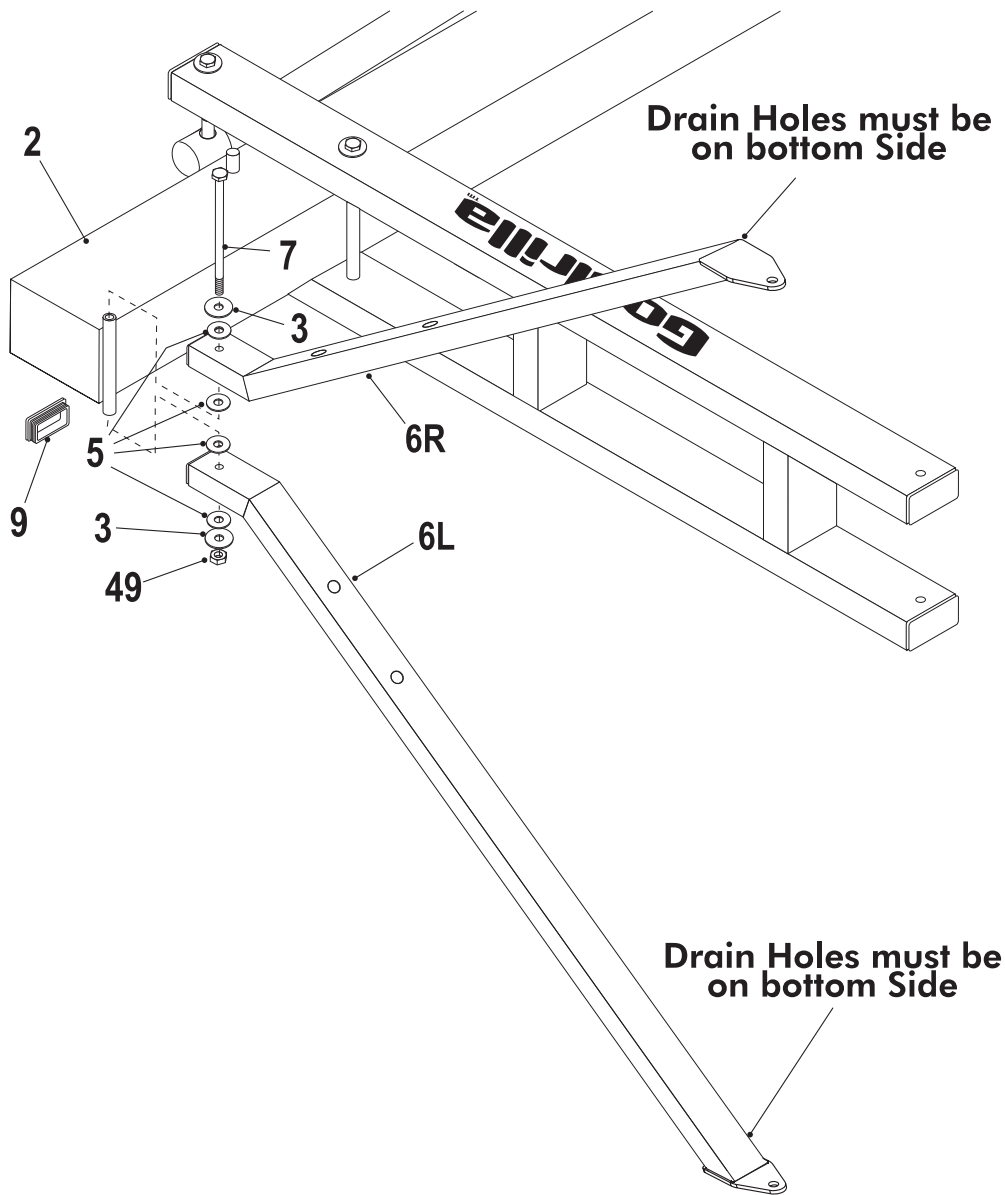

Figure 7
7. Attach Upper Arms (#6L & 6R) to pole (#2), as shown in Figure 7. Using a bolt (#7), two flatwashers (#3), four plastic washers (#5) and hex nut (#49).